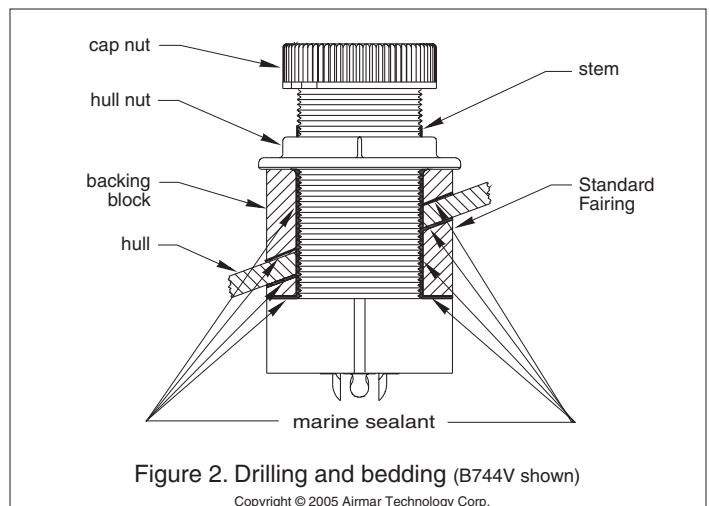

Figure 2. Drilling and bedding (B744V shown)
- Drill a 3mm or 1/8" pilot hole perpendicular to the waterline from inside the hull (see Figure 2). If there is a rib, strut, or other hull irregularity near the selected mounting location, drill from the outside.
1. Apply a 2mm (1/16") thick layer of marine sealant over the surface of the multisensor housing that will contact the fairing and up the stem. The sealant *must* extend 6mm (1/4") higher than the combined thickness of the fairing, hull, backing block, and hull nut (see Figure 2). This will ensure there is marine sealant in the threads to seal the hull and hold the hull nut securely in place.
3. Apply a 2mm (1/16") thick layer of marine sealant to the side of the fairing that will contact the hull (see Figure 2).
2. From inside the hull, slide the backing block onto the stem and seat it firmly against the hull. Screw the hull nut in place. Tighten it with slip-joint pliers (see Figure 2).